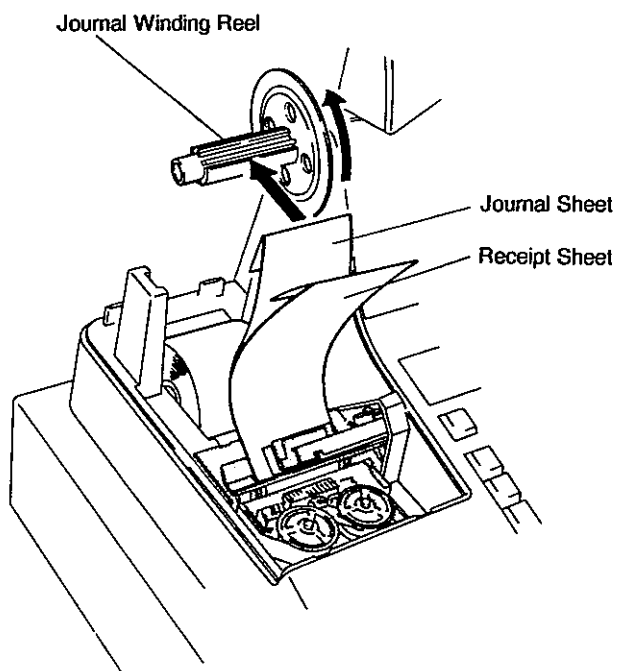

Fig. 5
5) Wind the paper end of the journal sheet (the bottom sheet) around the Journal Winding Reel two or three times, set the reel to the holder, and press the [FEED] key for a while to tense the journal paper. (Fig. 5)